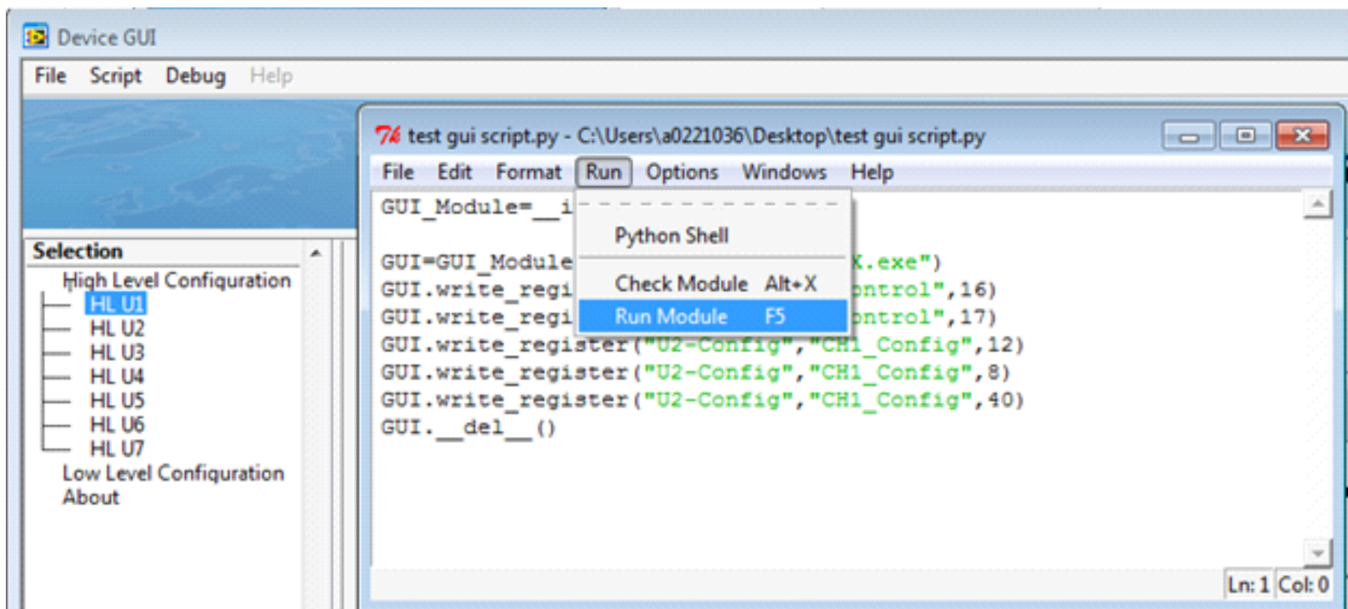

Figure 23. Run the Recorded Script
- (O) In the Python window go to Run >> Run Module, see Figure 23. The Python script should run and another python window should pop up saying Script Completed Successfully.